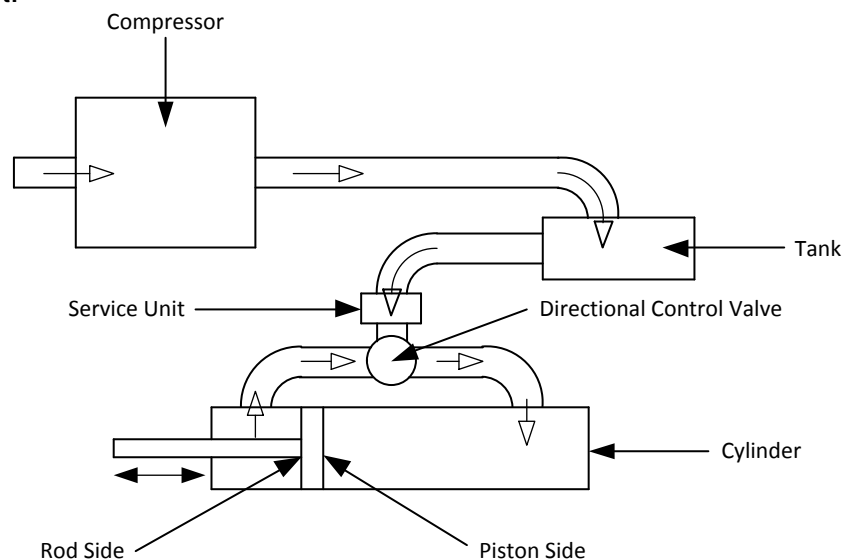

FIG 1.
- B. The basic pneumatic circuit consists of the following parts. (See Fig 1)